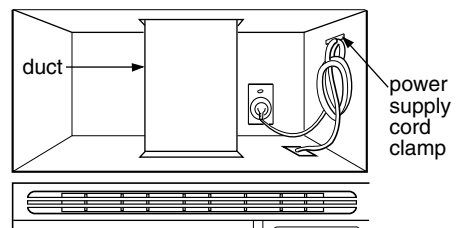

Figure 30
4. **ROOF VENTED INSTALLATION:** Install ductwork through the vent opening in the upper cabinet. Complete the venting system through the roof according to the method needed. See Figure 30. See **PREPARE THE VENTING SYSTEM, STEP 2** on page 8. Use caulking to seal the exterior roof opening around the exhaust cap. See Figure 6 on page 8.
5. Use the power supply cord clamp to bundle the power supply cord. Install the power supply cord clamp, using a screw as shown in Figure 30, to the inside of the cabinet.